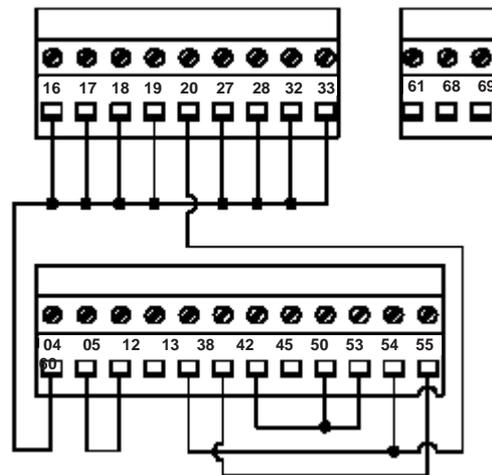

Figure 5-13. Control Card Test Connections
4. Wire control terminals as shown in Figure 5-13.